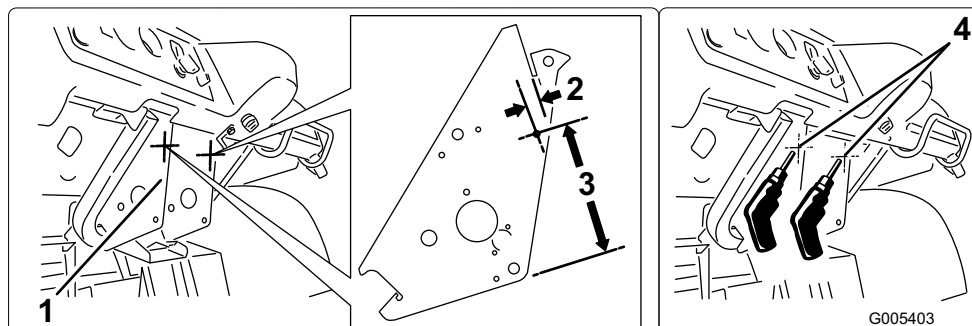

Figure 10
- A. Measure the pedal box as shown in (Figure 10).
- B. Mark a spot and drill a 0.328 inch diameter hole (Figure 10).
- C. Drill another hole for the other side of the pedal box at same location (Figure 10).